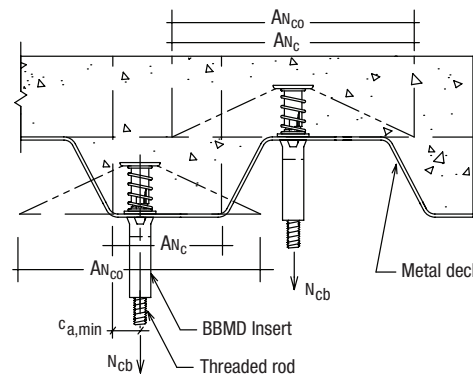

Figure 1. Idealization of concrete on deck; determination of concrete breakout strength in accordance with ACI 318.
- The concrete tension strength of headed cast-in specialty inserts in the soffit of concrete on metal deck assemblies shall be calculated in accordance with ACI 318 Appendix D and Figure 1.